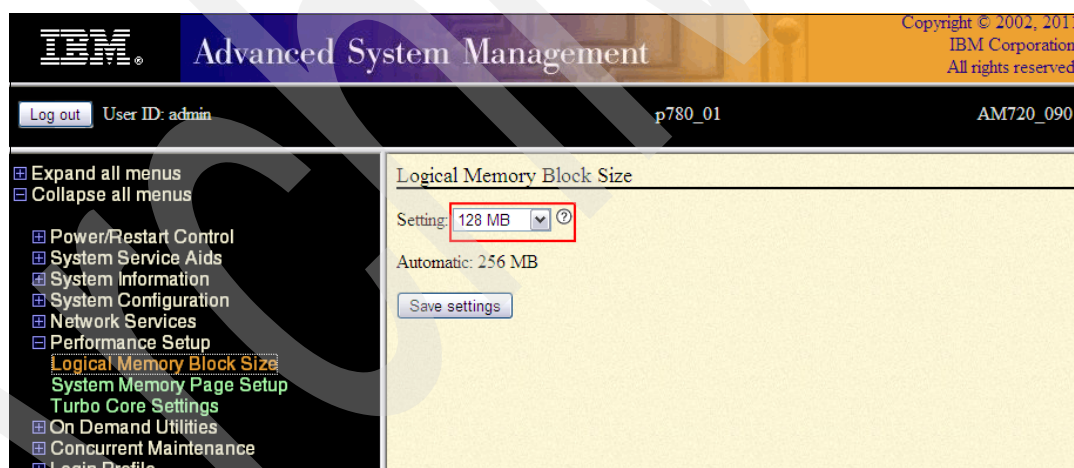

Figure 4-9 Verify LMB size from the HMC
- ▶ Ensure that the Logical Memory Block (LMB) is the same on both the source and destination systems (Refer to Figure 4-9).